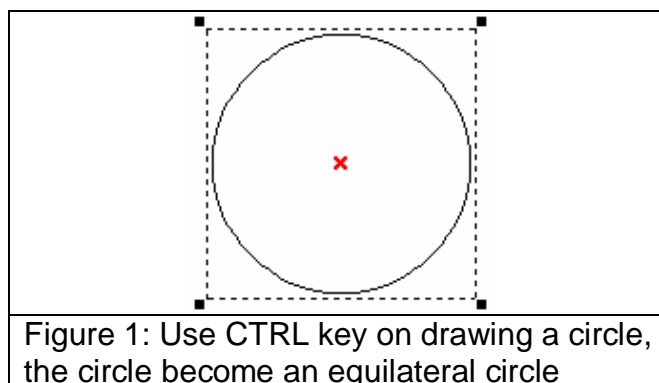

Figure 1: Use CTRL key on drawing a circle, the circle become an equilateral circle
* **Tips:** Use CTRL key to insert straight lines, the next line will move 15° to the previous line as figure 1 below
- * **Tips:** Use CTRL key on drawing a circle, the circle will become an equilateral circle as figure 1 below.